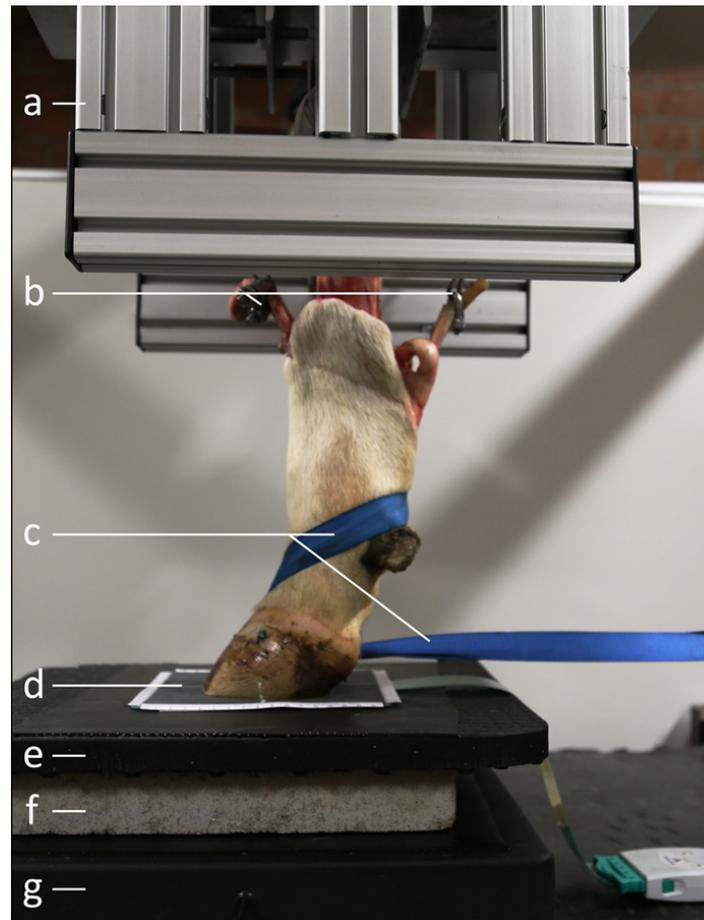

FIGURE 4
- As shown in **Figure 4**, in order to simulate the in vivo situation as close as possible, the deep digital flexor tendon and the digital extensor tendons were pulled proximally with 500 and 50 N, respectively